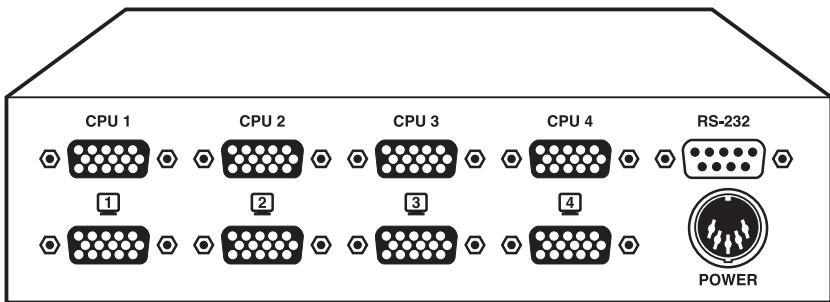

Figure 3-1. The Switch’s rear-panel connectors.
1. Making sure that the Switch is powered off, find its input ports. (These are the top row of HD15 connectors on its rear panel, shown in Figure 3-1, labeled “CPU 1” through “CPU 4”.) Run cabling from these ports to the video-output ports of the PC CPUs or other devices that will be providing the Switch’s video input.